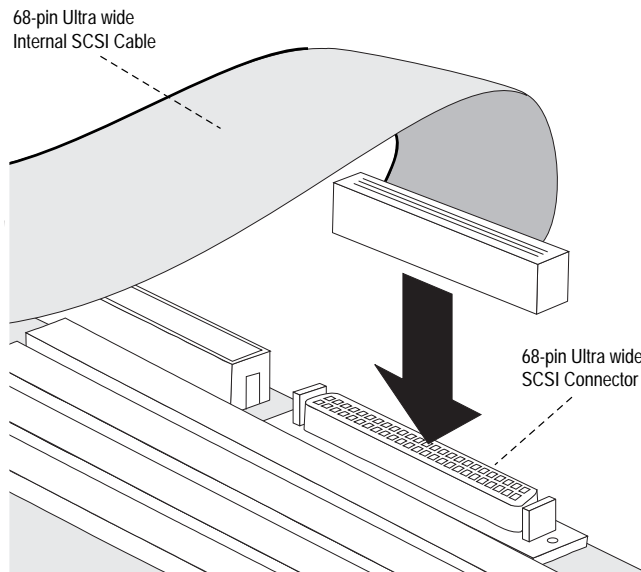

Figure 2-5. Attaching 68-pin Internal Ribbon Cable
- 3 If you are connecting 8-bit internal SCSI devices, attach one end of the 50-pin cable to the 50-pin internal SCSI connector on the motherboard. If you are connecting 16-bit internal SCSI devices, attach one end of the 68-pin cable to the 68-pin internal SCSI connector on the motherboard. Figure 2-5 shows a typical installation of a 68-pin cable.